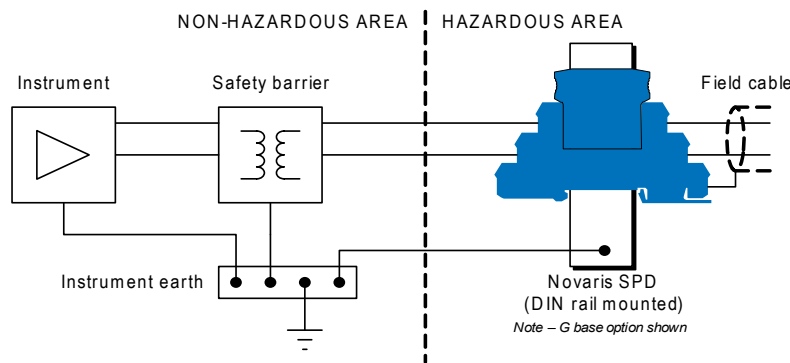

Figure 6: Installation after IS barrier
**3.3 Isolation:** The signal wiring to the Novaris surge protection device must be galvanically isolated using a suitable safety barrier. An example of appropriate connection to an safety barrier is given in figure 6.